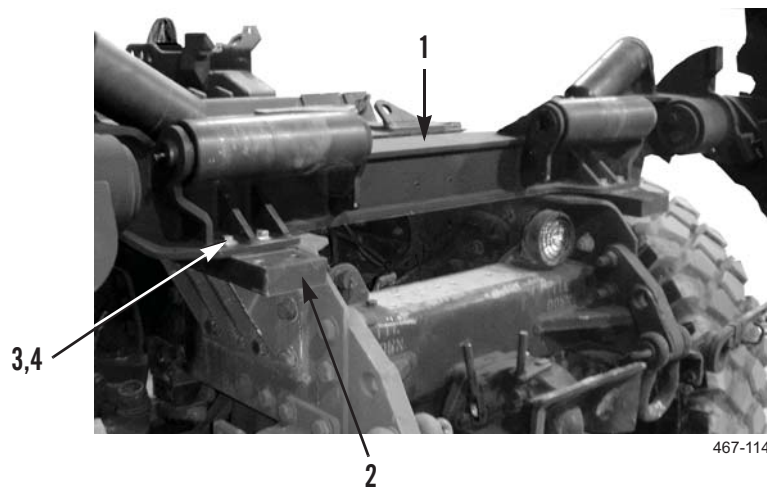

Figure 41. Slider Assembly Installation.
7. Install four washers (Figure 41, Item 3) and bolts (Figure 41, Item 4) in slider assembly (Figure 41, Item 1).